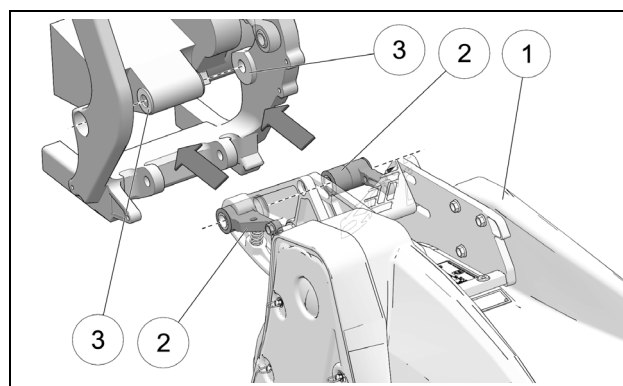

Figure 26
- Slide the YETI Conversion System (1) into position to align Bike mount adapters (2) where your bike's swing arm (3) used to be. See Figure 26.